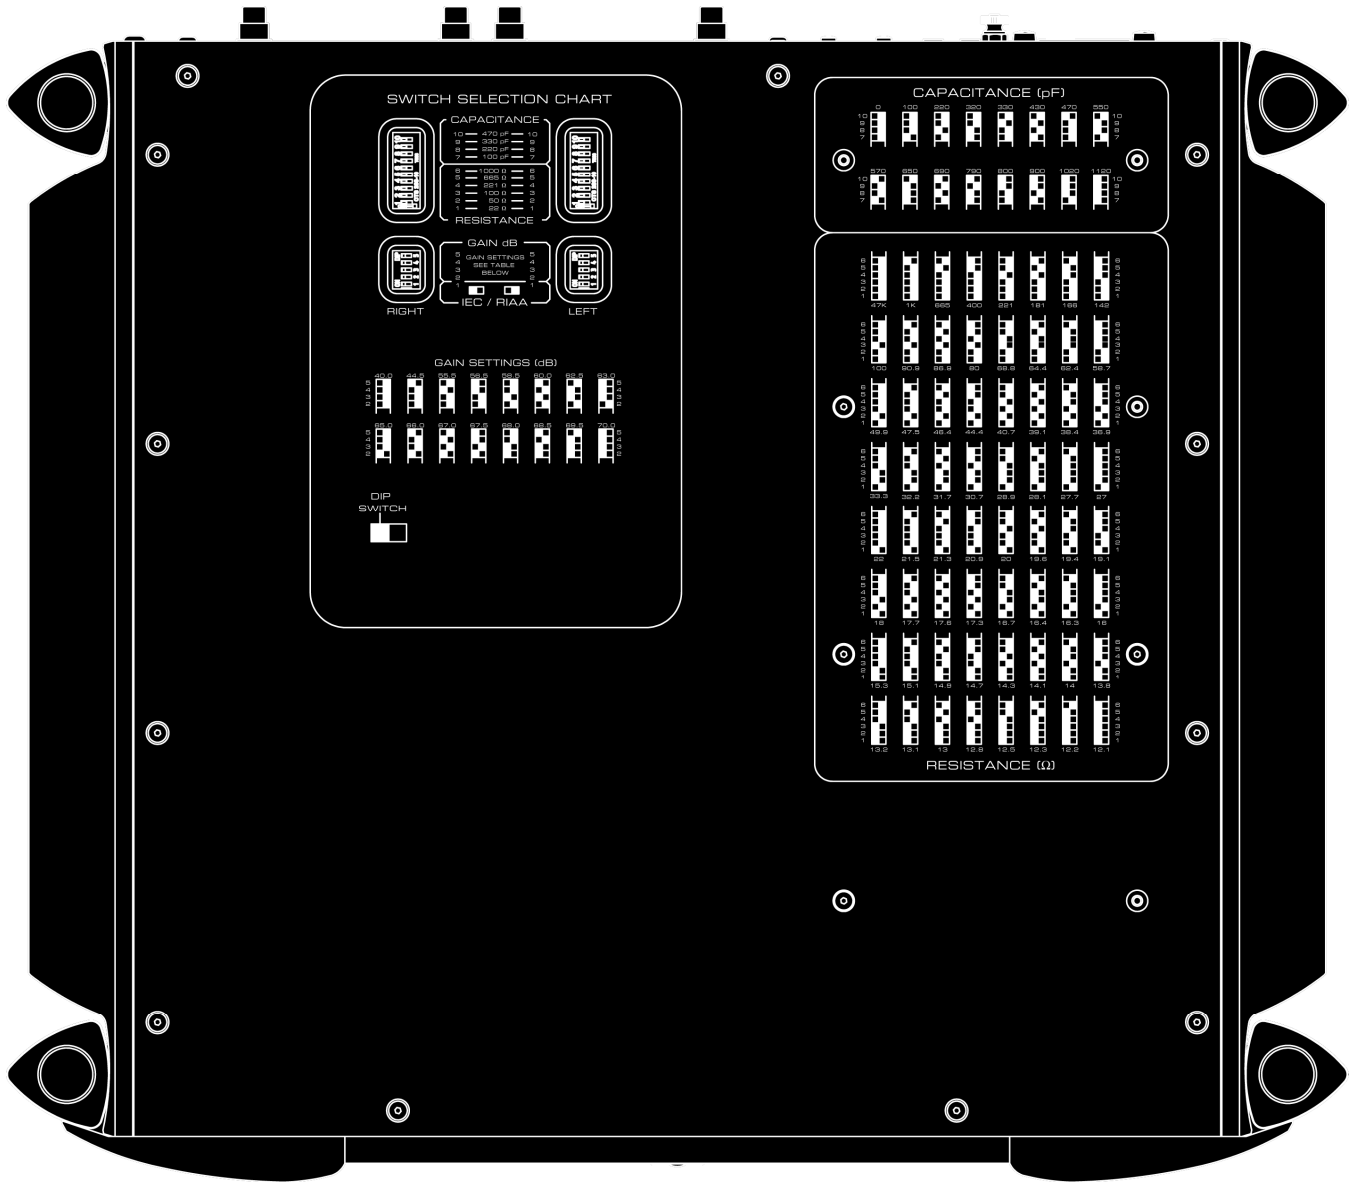

Figure 1: MOON 810LP Bottom Panel layout
Settings for cartridge resistance loading, cartridge capacitance loading, gain and equalization curve are all done using white colored DIP switches located on the **810LP's** bottom panel as shown above in figure 1. There are two (2) banks of DIP switches – The upper bank provides for the capacitance and resistance loading adjustments; the lower bank for gain level and